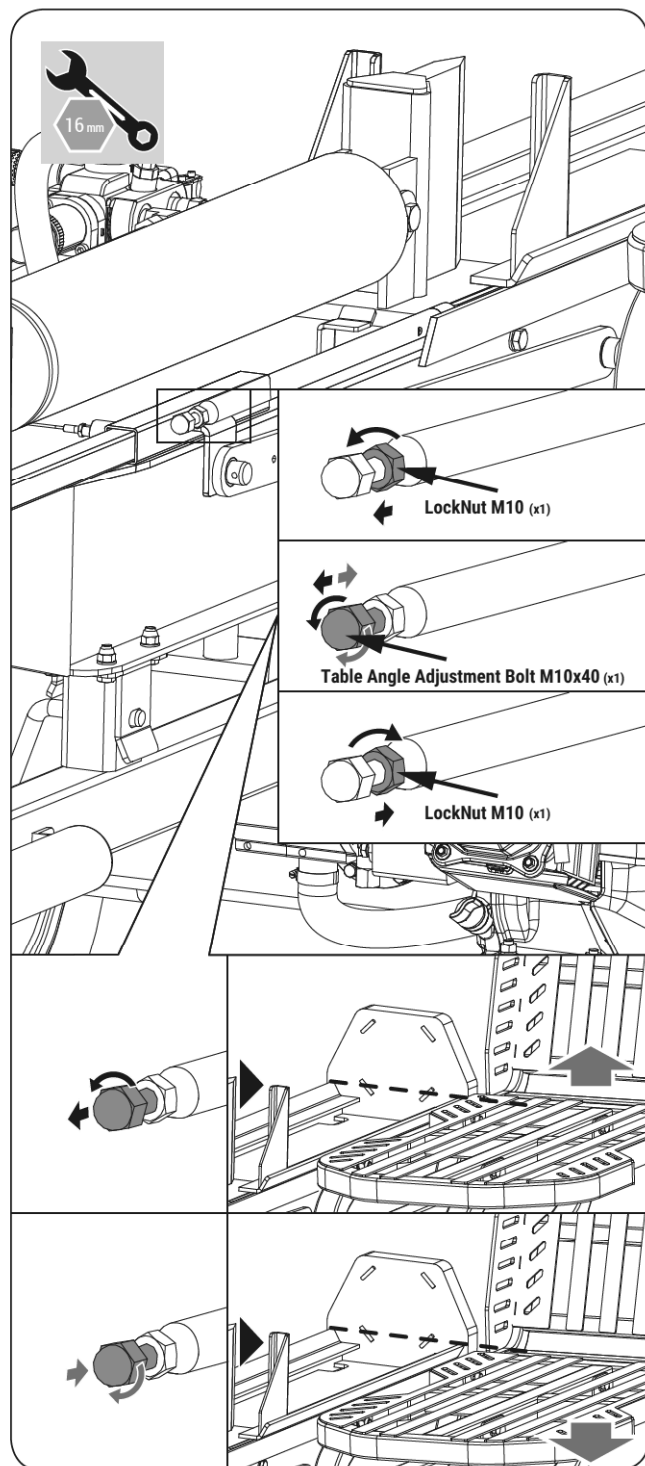

Figure 12
1. Loosen the lock nut, adjust the table angle adjustment bolt backward to increase the length of the ejector rod, and the table tilts upward; On the contrary, adjust the table angle adjustment bolt forward to shorten the length of the ejector rod, and the table will tilt down. When the height of the table and beam is aligned, lock the nut tightly. (See **Figure 12**.)